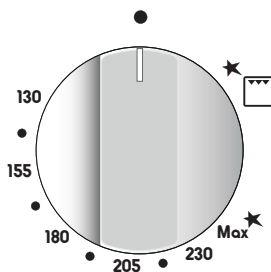

Fig. 4.1
The numbers printed on the control panel or on the knob (fig. 4.1) indicate the increasing oven temperature value (see table below).
- 2 – Lightly press and turn the thermostat knob anti-clockwise to the maximum position ★ (fig. 4.1). Press the knob firmly until the burner lights.